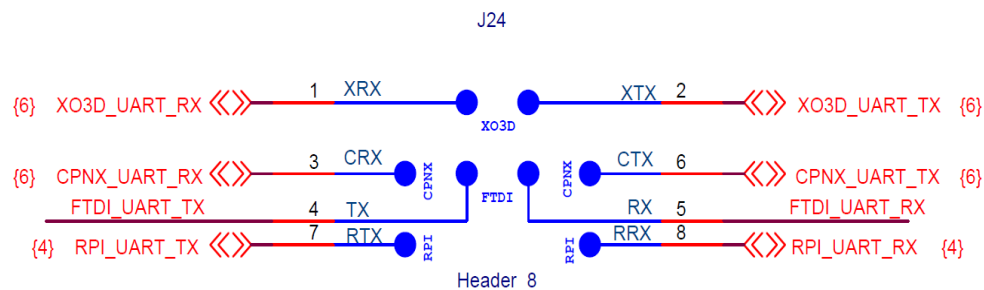

Figure 16.2. J24 Jumper Schematic
- The UART Target selection setting through jumper J24, as shown in Figure 16.2.